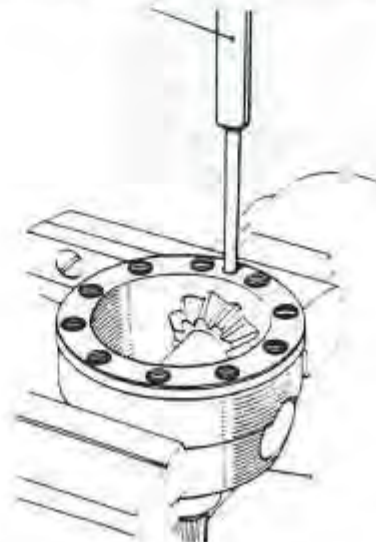

Fig 34
5. Remove the shaft retaining pin and remove the spider gear shaft. (Fig. 34)